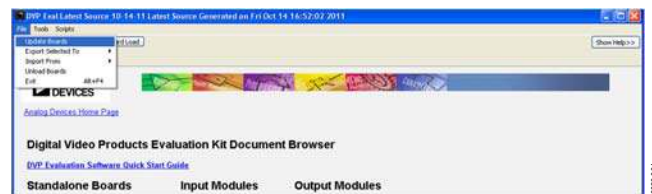

Figure 5. Update Board Files on the DVP Eval Software
5. Select **File > Update Boards** to combine the ADV7182A script files with the DVP Eval Software. (see Figure 5).